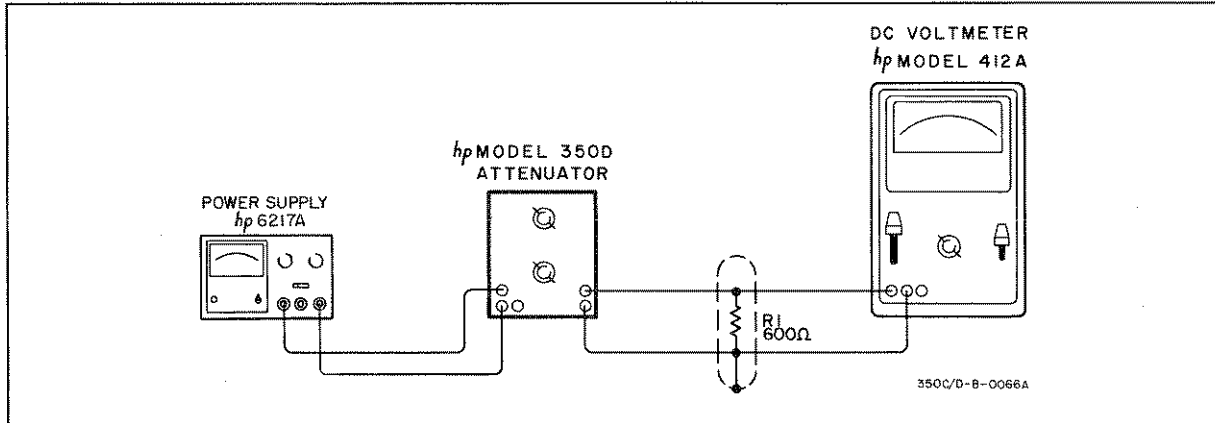

Figure 5-5. DC Performance Test Setup
5-11. The dc performance test setup is illustrated in Figure 5-5. A DC Power Supply (-hp- Model 6217A) and a DC Voltmeter (-hp- Model 412A) are required for this test. In addition, a Corning Glass Works Co. 600 ohm, 10 watt, LPI-10 $\pm 2\%$ resistor is required. This resistor must be enclosed in a shield as shown in Figure 5-5.
- a. Make test setup illustrated in Figure 5-5.